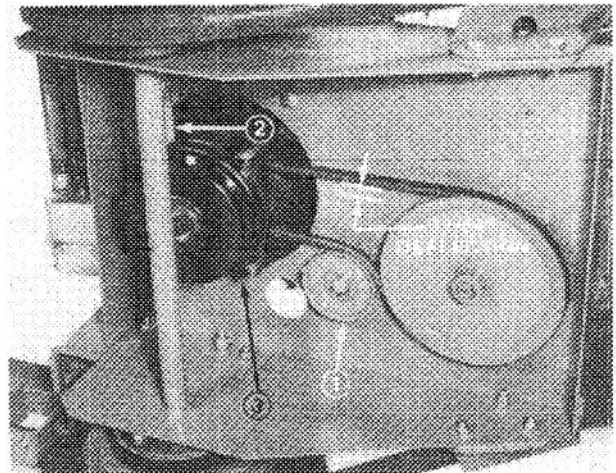

Figure 21
1. Loosen capscrew and flange nut securing idler pulley to frame (Fig. 21). Slide pulley outward relieving belt tension.
2. Remove left front engine mounting bolt securing clutch retainer to frame (Fig. 21). Unhook retainer from clutch and remove retainer.
3. Disconnect in-line wire connector and remove belt from drive pulley and clutch (Fig. 21).
6. Position and secure idler pulley to frame so belt deflection is no more than 11/64" when 5 1/2 lbs. of force is applied to midspan of long leg of belt (Fig. 21).
1. To adjust clutch, tighten or loosen locknuts on flange studs (Fig. 21).